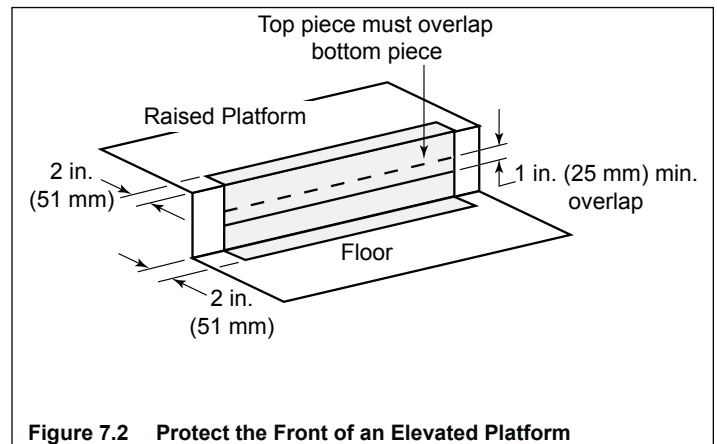

Figure 7.2 Protect the Front of an Elevated Platform
- Protect the front of a platform elevated above the hearth extension with metal strips (not included with fireplace) per Figure 7.2. See Section 12 for hearth extension instructions.